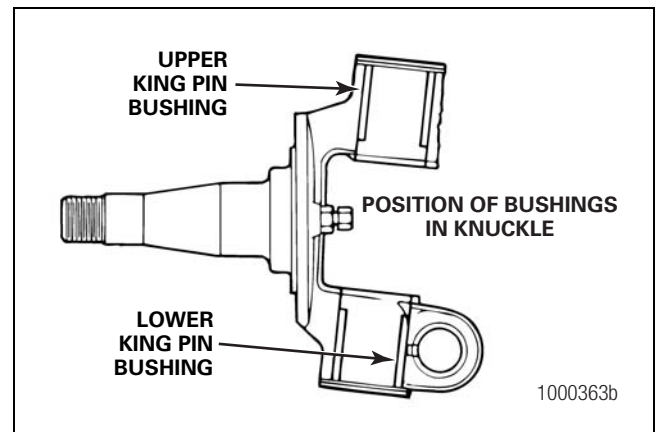

Figure 4.28
5. Install the tool into the upper king pin bushing. Press the upper king pin bushing from the knuckle bore. Figure 4.28.
6. Turn the knuckle upside down and install the tool into the lower king pin bushing. Press the lower bushing from the knuckle bore. Figure 4.28.